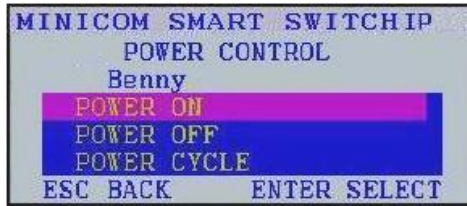

Figure 40 Power Control dialog box
2. Press Left Shift, F12. The Power Control dialog box appears, see Figure 40. Note! If you change the OSD hotkey from Shift, Shift to Ctrl, Ctrl, then the power management hotkey becomes left Ctrl, F12.